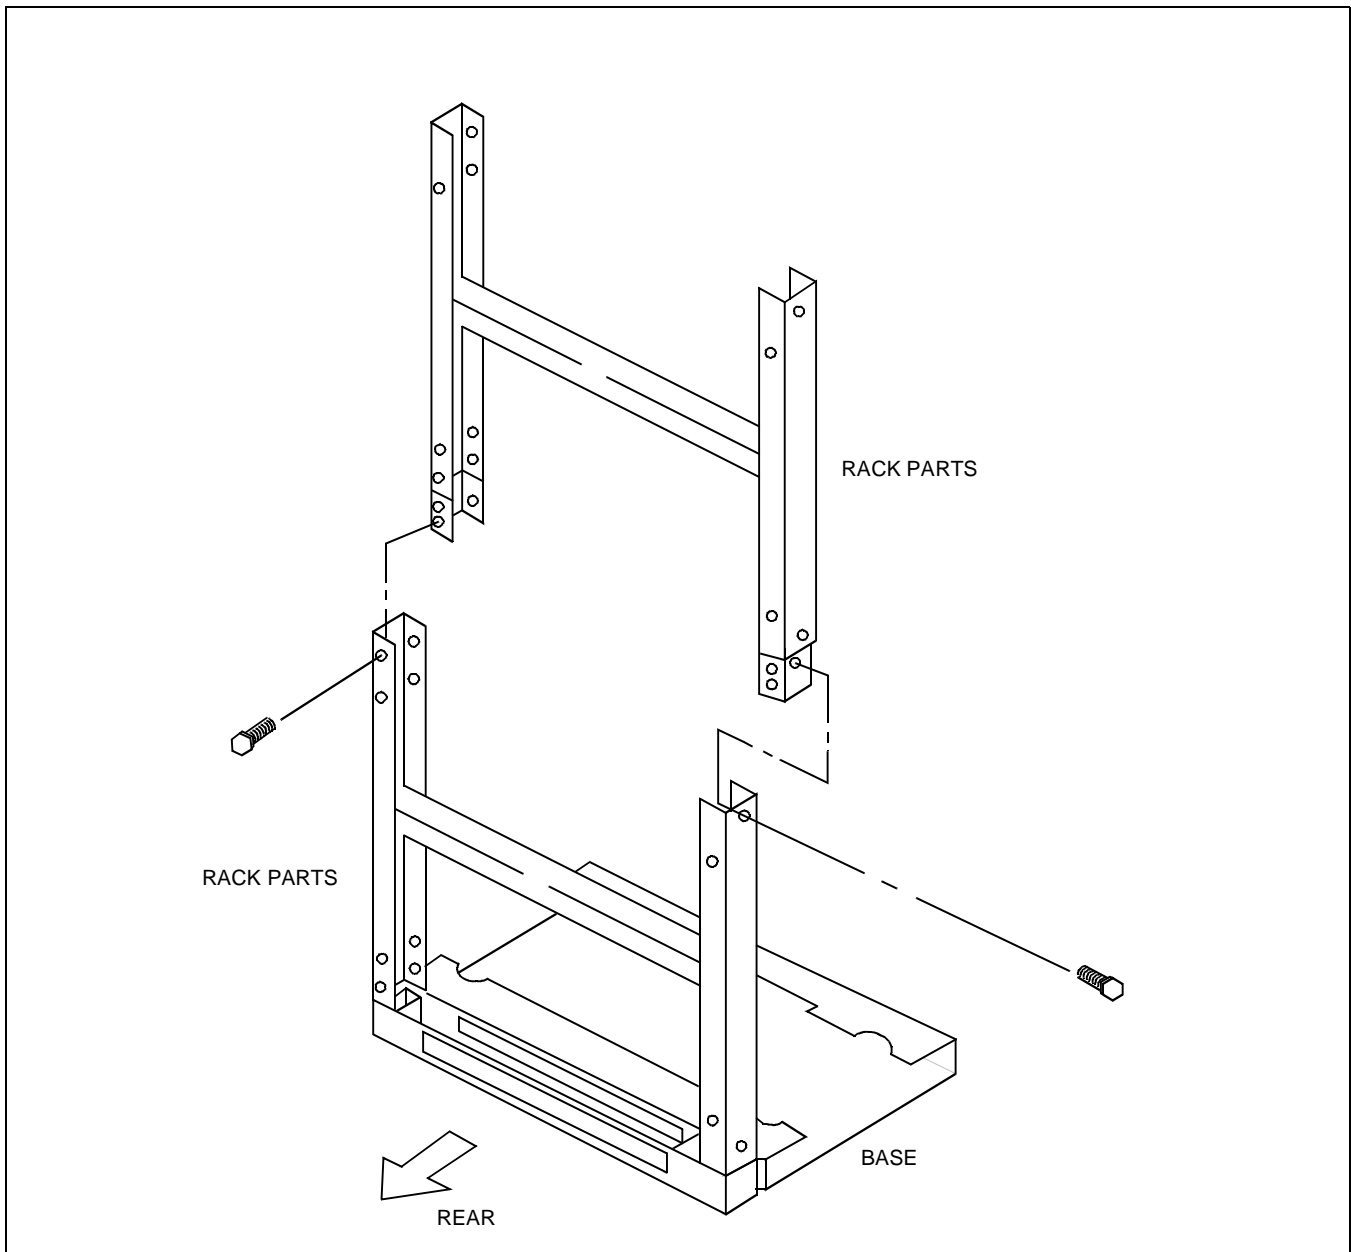

Figure 003-2 Connection of RACK PARTS
(2) In a Multiple-PIM Configuration
- (a) When the system is a multiple-PIM configuration, connect the RACK PARTS to each other as shown in Figure 003-2.